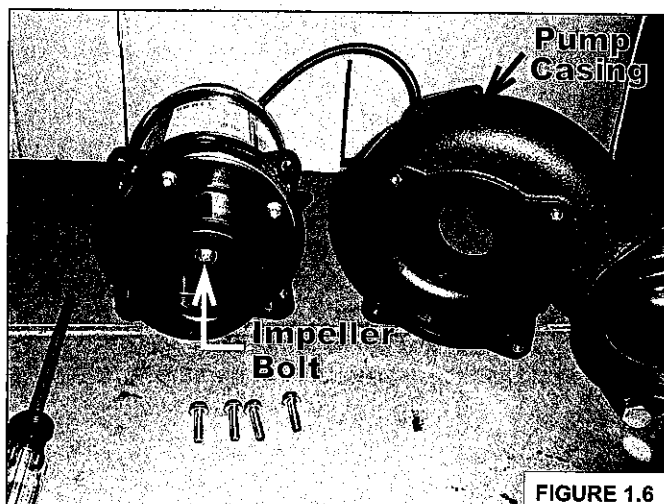

FIGURE 1.6
2. Secure the impeller and then remove the impeller bolt and remove impeller. (Figure 1.6)